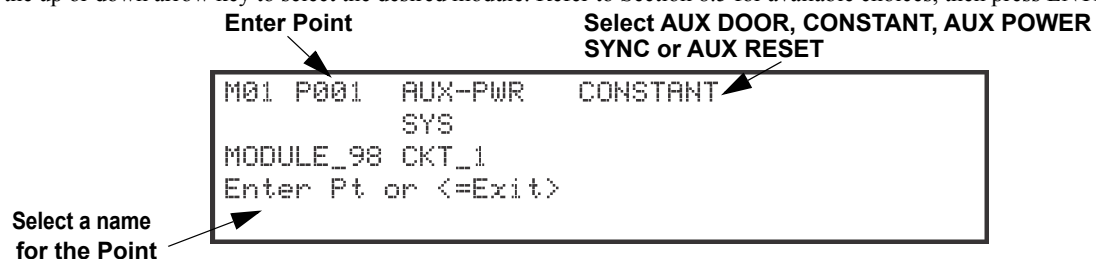

Figure 9.6 Programming Points Screen for the 5496 Module
6. Press the up or down arrow key to select the type (See Figure 9.6 on page 133). Then press ENTER.